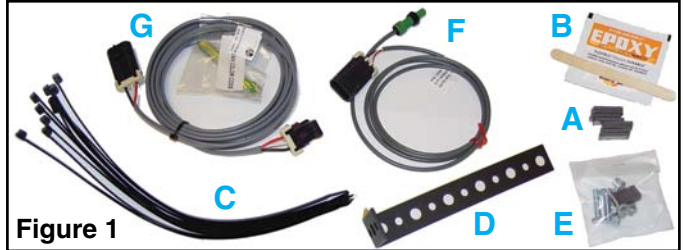

Figure 1
For the installation you will need the Magnetic Sensor Kit shown in Figure 1 below,
To install the magnets (part A in figure 1) on the drive shaft, use the Epoxy (B). Spare magnets are provided in the Hardware Kit (E) should they be needed.